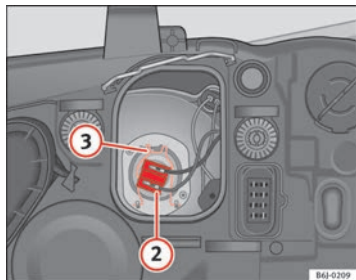

Fig. 138 Dipped beam headlights
- Remove the connector ⇒ fig. 138 ② from the bulb.
- Unclip the retainer spring ⇒ fig. 138 ③ pressing inwards to the right.